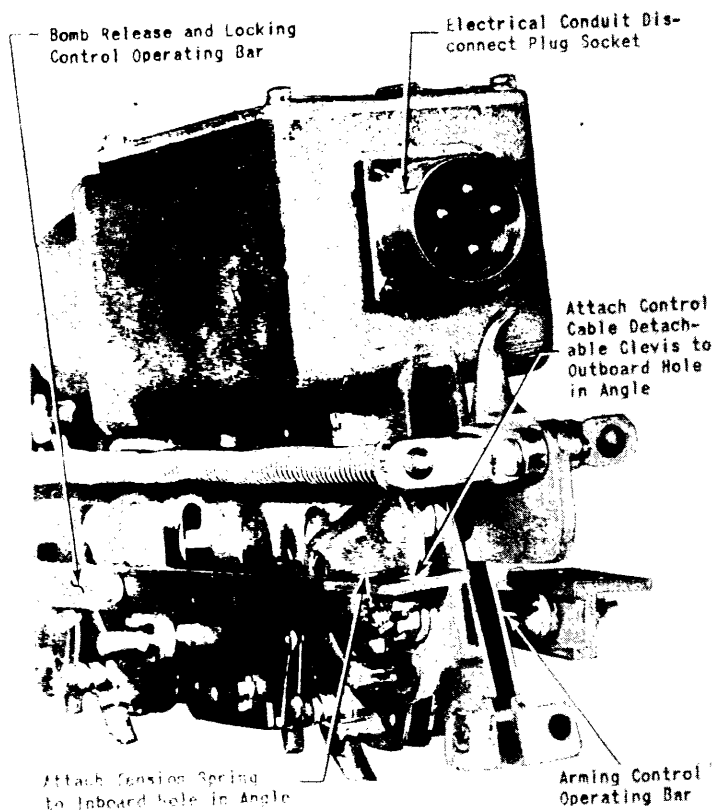

Figure 47 - Bomb Rack - Inboard End
(1) Assemble the attaching angles to the bomb rack operating bars with the bolts provided. Note that the bolt heads are on the inboard side of the assembly as illustrated in figure 47.